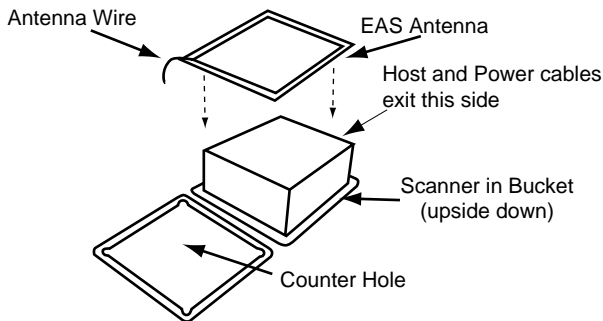

Figure 9. Aligning the Antenna and Bucket
7. Position the EAS antenna over the bucket. Be sure the antenna wire aligns with a channel which is opposite from the host and power cable as shown in Figure 9.